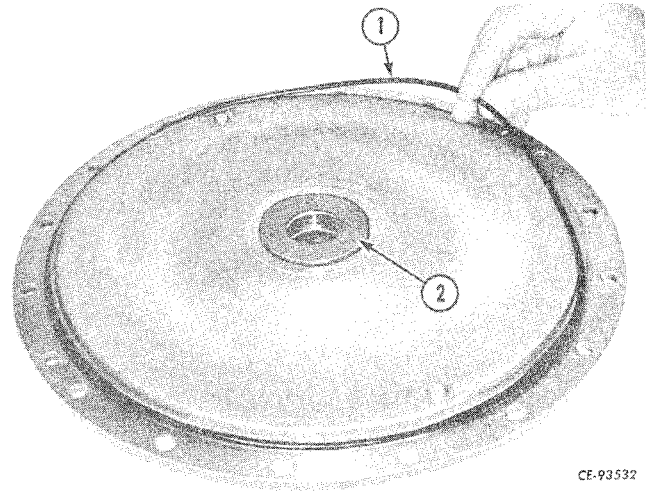

Figure 3-19
Remove the flat washer (2, Fig. 3-19). Remove and discard the "O" ring gasket (1).